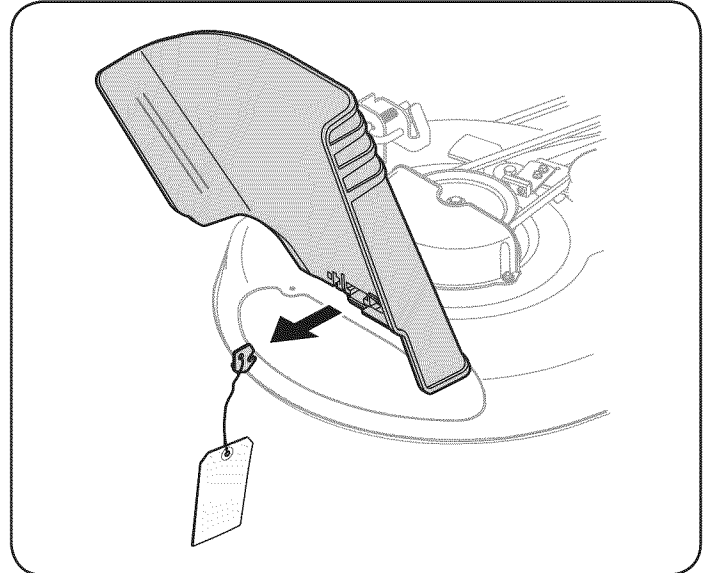

Figure 2
- Locate the shipping brace, if present, and accompanying warning tag found on the right side of the mower, between the discharge chute deflector and the cutting deck. See Fig. 2.